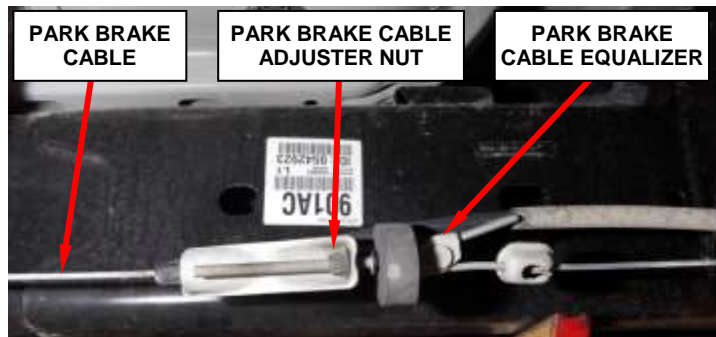

Figure 19 – Park Brake Cable Adjustment
- a. Mark the location of the park brake cable adjuster nut (Figure 19).
- b. Loosen the park brake cable adjuster nut until the cables are slack (Figure 19).
31. Tighten the park brake cable adjusting nut until the mark made previously is reached (Figure 19).